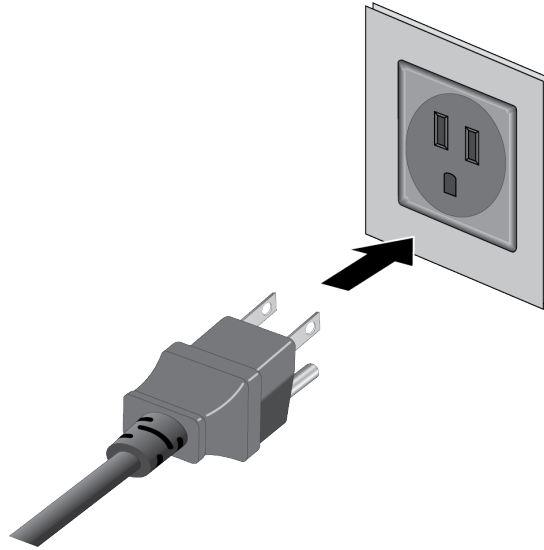

Figure 44. Connecting the Power Cords to AC Power Sources
4. Connect the power cords to appropriate AC power sources. Refer to Figure 44 on page 100.